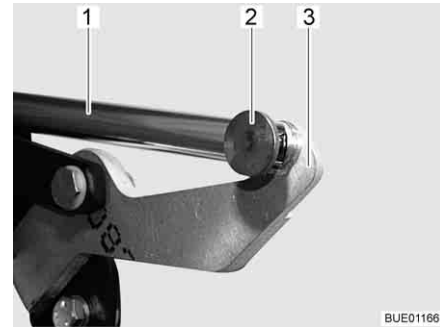

Fig. 110 Drive
- Detach the pin and cotter pin (Fig. 110,2) between the push rod (Fig. 110,1) and lever (Fig. 110,3).